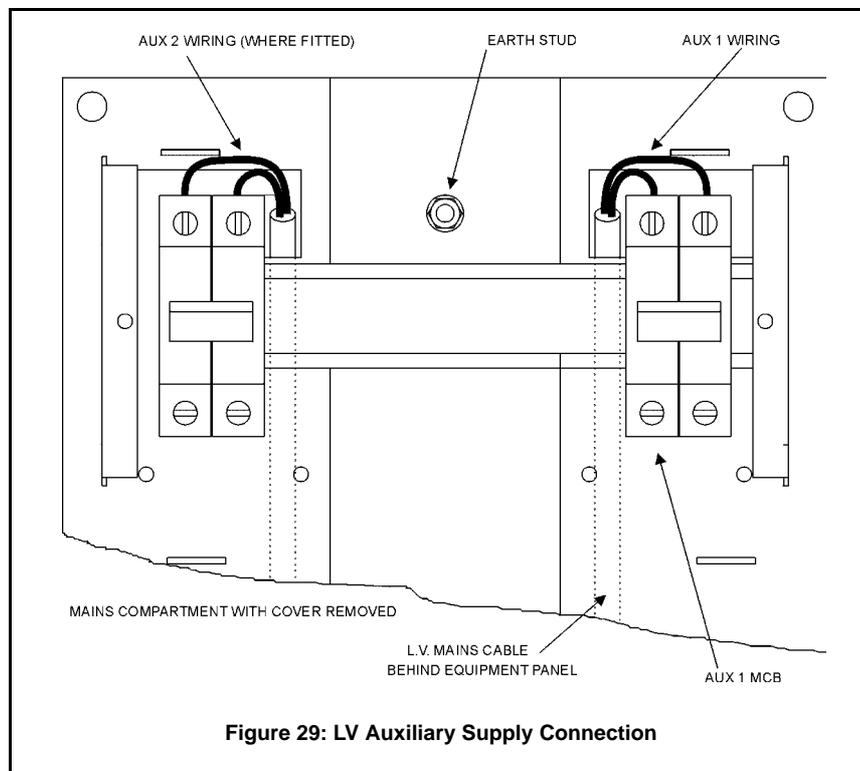
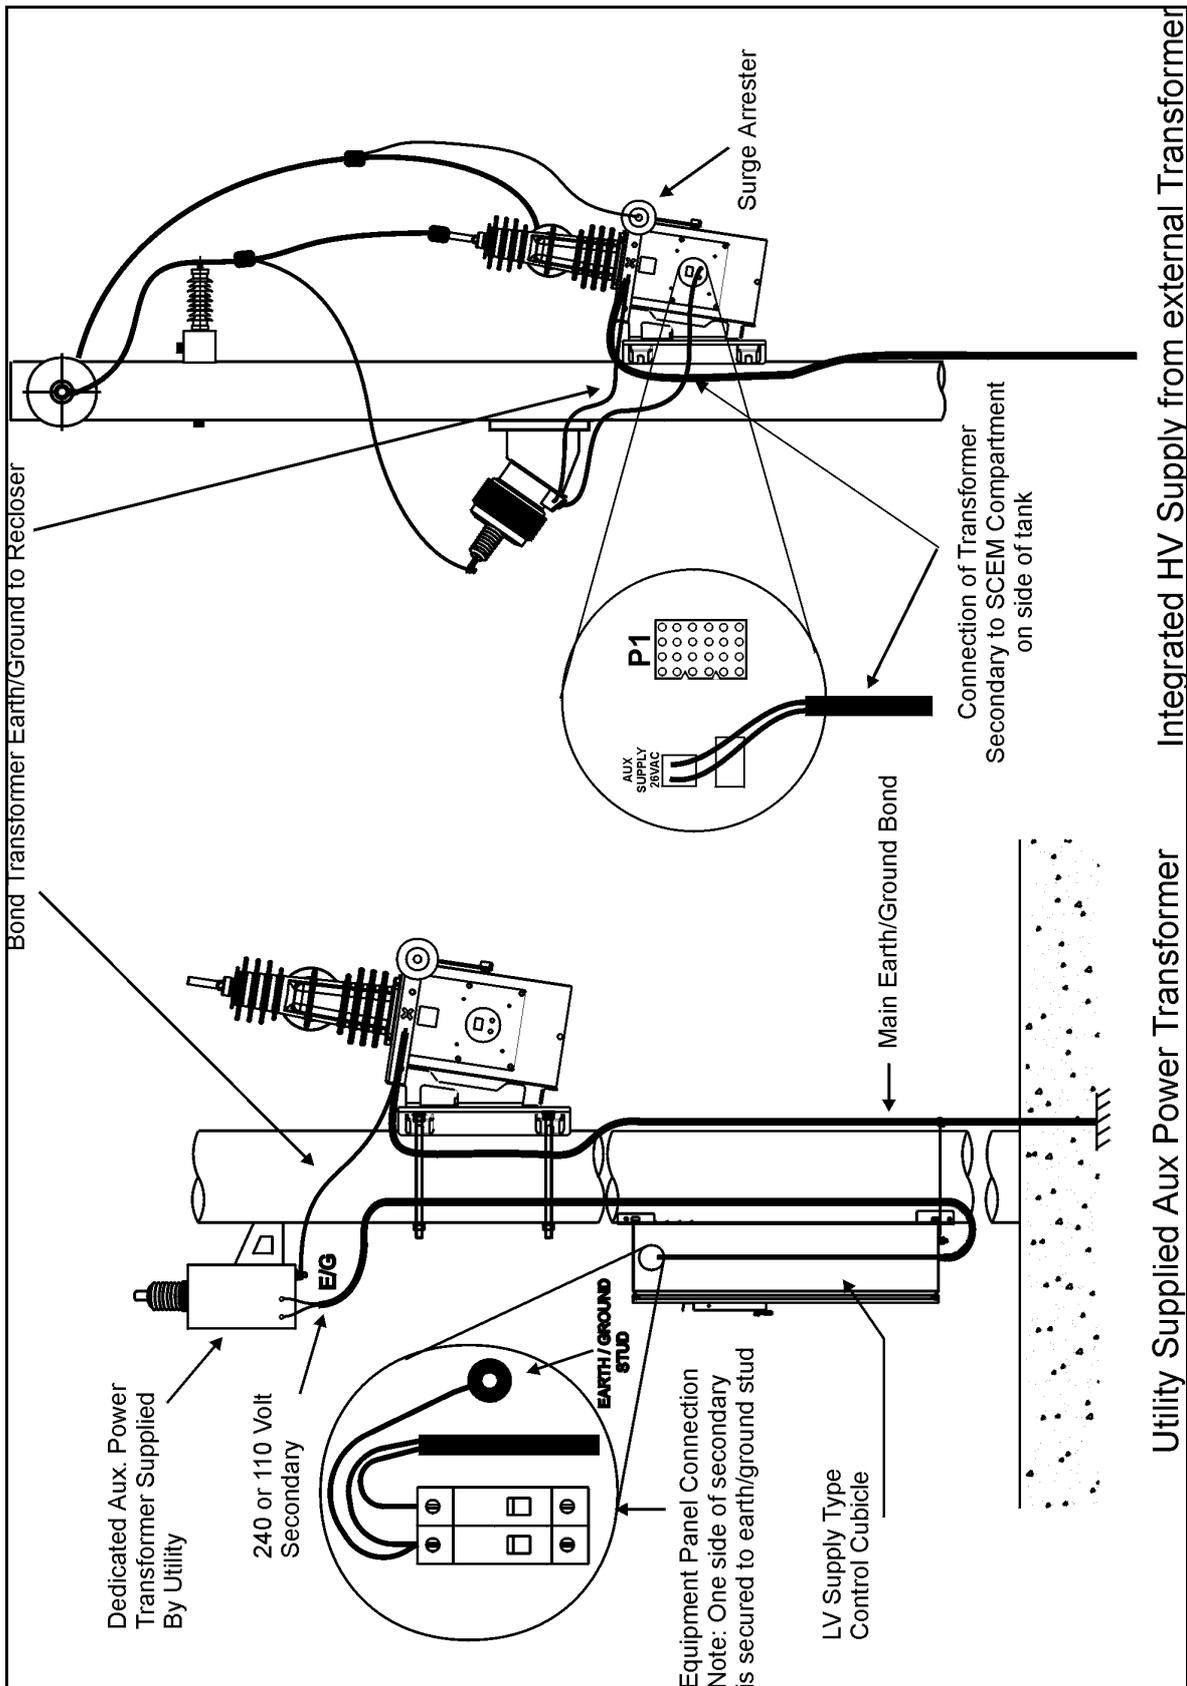

Figure 29: LV Auxiliary Supply Connection
Figure 32: Utility Aux Transformer and Integrated External Transformer
- Earth wire and lugs for the earthing scheme and parts for LV mains auxiliary power connection. See Figure 29 (page 80), Figure 33 (page 121) and "Earthing" - page 79.
- Complete the following sequential steps to erect and test the circuit breaker. Refer to mounting details provided at Figure 29 (page 80), Figure 30 (page 81), Figure 31 (page 82) and Figure 32 (page 83).
- Carry out the wiring connections inside the control cubicle as shown in Figure 29 (page 80).
- For LV supply from a dedicated transformer supplied by the utility, connect as shown in Figure 32 (page 83).
- For Integrated supply from an external transformer, connect as shown in Figure 32 (page 83). Refer to "LV Auxiliary Power from Dedicated Utility Transformer" - page 80.
Connections are made to the circuit breaker terminals using one of the methods below, See Figure 29 (page 80).
Figure 32 (page 83) shows wiring and earthing if a dedicated transformer is supplied by the utility. Note that this should not be used to supply any other equipment without consulting the manufacturer to ensure that no hazard is caused to the control cubicle electronics.
Figure 32 (page 83) shows that the transformer and any steelwork is earthed to the switchgear tank and that one side of the transformer secondary is earthed to the earth stud on the equipment panel inside the control cubicle.
An external transformer is mounted on the front of the tank as shown in Figure 32 (page 83) which also shows suggested HV connections. The secondary of the external transformer connects